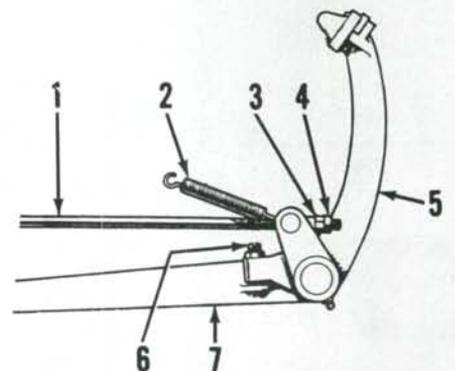

Fig. 219—View of typical brake pedal used on models equipped with mechanical drum brakes.
**286.** Align left and right brake pedal height, if necessary, by adjusting screws (6—Fig. 219). Tighten locknuts to secure adjustment.
To adjust brakes, raise tractor until both rear wheels are off the ground. Connect pedals with the lock, depress pedals about 40 mm (1½ inches) and pull hand brake lever up to hold pedals in this position. Loosen locknut and turn adjusting nut (3—Fig. 219) on one brake rod until wheel is locked, then loosen nut until it is just possible to turn wheel by hand. Tighten locknut. Repeat procedure for the other brake. Release hand brake and check for satisfactory operation.